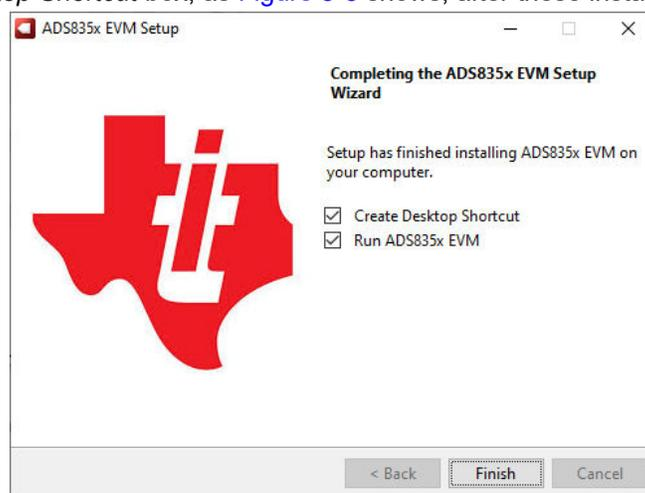

Figure 5-5. ADS8354EVM-PDK Installation Final Step
4. Check the *Create Desktop Shortcut* box, as Figure 5-5 shows, after these installations.